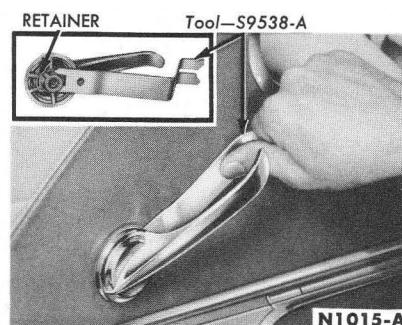

FIG. 1—Typical Handle Removal
1. Remove the window regulator handle with the tool shown in Fig. 1. Insert the tool between the control handle and the friction plate. Press the tool against the spring clip until the handle can be released from the shaft.